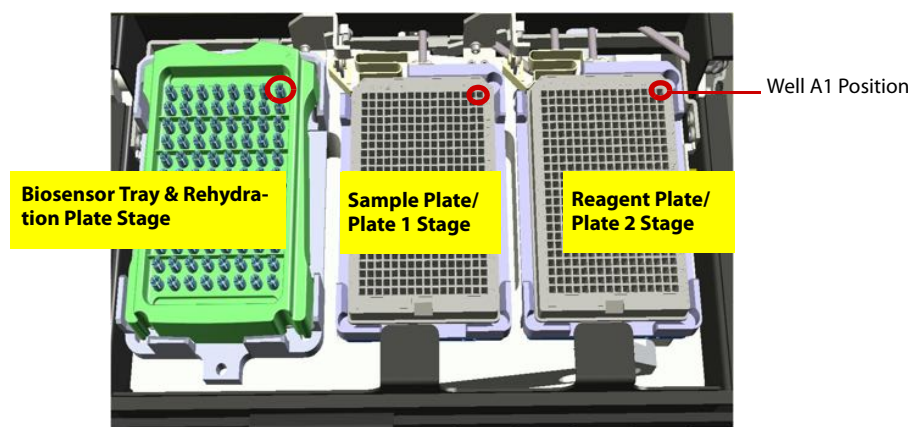

Figure 7-66: Octet Instrument Stage Platform
2. Place the biosensor tray, sample plate, and reagent plate on the appropriate stage so that well A1 is located at the upper right corner (see Figure 7-66):